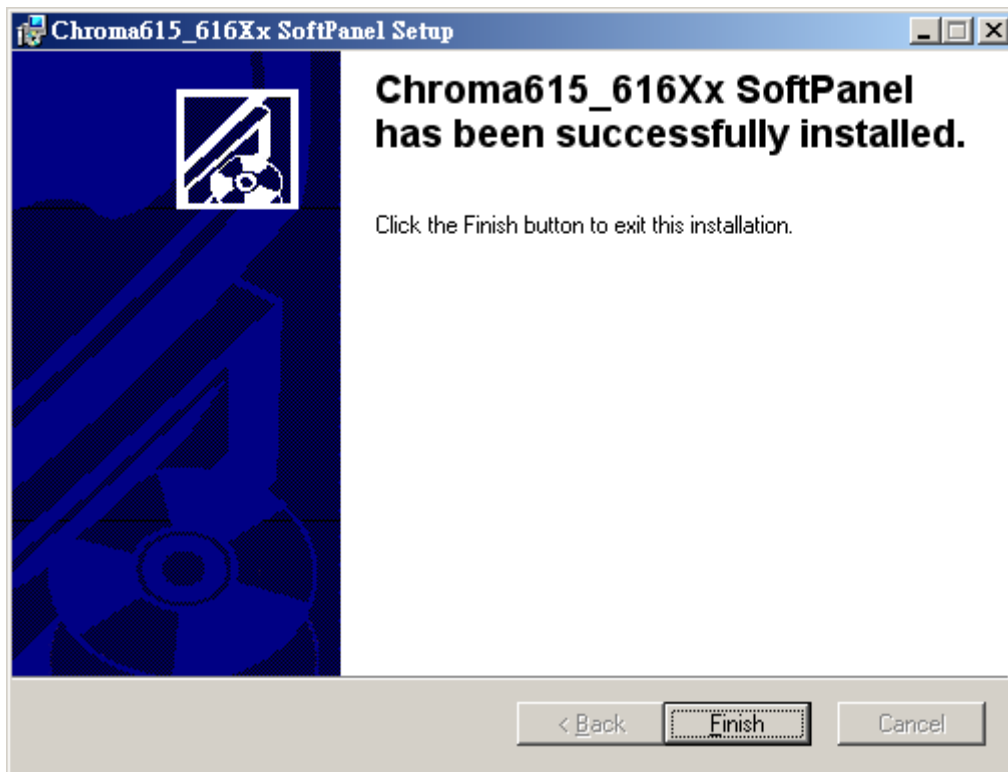

Figure 2-6 Installation Complete Screen
- Figure 2-6 prompts once the installation is completed. Click **Finish** to end the installation.